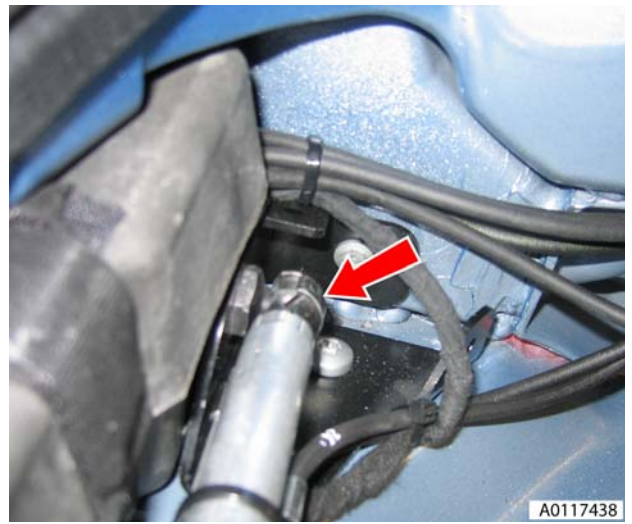

Figure 7
14. Release cylinder lower retaining clip and disconnect cylinder from body (see Figure 7).